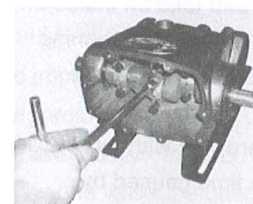
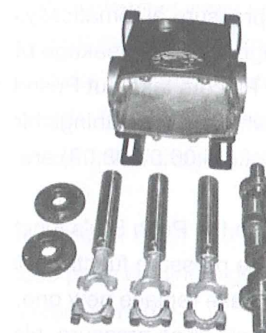

figure 3
figure 5
2. Use T tool to loose the screw of Connecting rod (figure 3), the Connecting Rod should be one by one can't mixed to each other (figure 4,5) which to avoid block, then replace Plungers Connecting Rod, Pin, Bearing, Oil Seal if required. (figure 5)